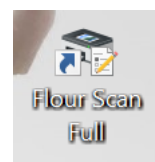

Figure 1
- 1) On the Dell Latitude 5410, named ARSKSMHK5R223-2, which already has the program installed, click the shortcut labeled “Flour Scan Full” to open the program. [See Figure 1]